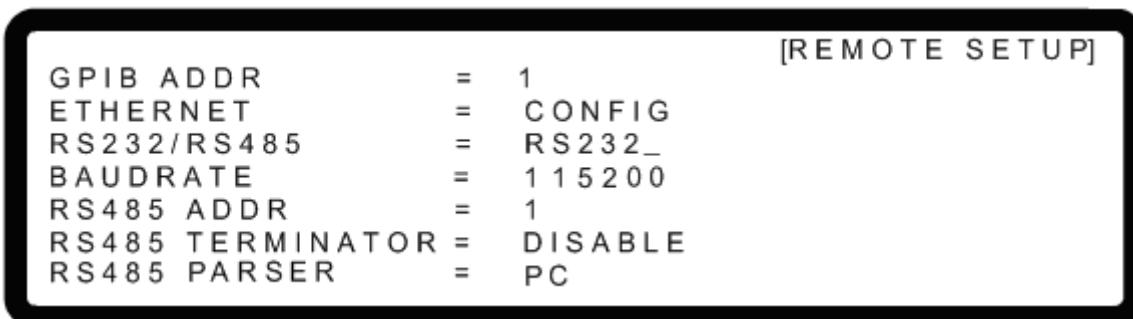

Figure 3-151
1. Use the "  ,  " keys to move the cursor to the RS232/RS485 column as shown in Figure 3-151.